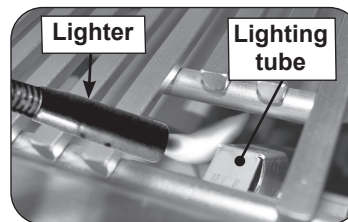
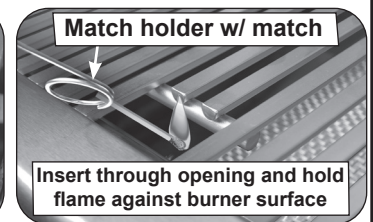

Fig. 31-2 Manual lighting via lighting tube
Fig. 31-3 Manual lighting via match holder
**CAUTION:** Always wait five (5) minutes for gas to clear after any unsuccessful lighting attempt.
2. Insert either a burning long-barrel butane lighter or a burning long-stem match through the cooking grid opening to the top of the lighting tube (see Fig. 31-2). For backburners or infrared burners, hold the flame against the surface of the backburner/infrared burner. For side burners, hold the flame against the burner. Grills equipped with an infrared burner include a wire extension match holder (attached to drip tray) to assist with manual lighting (see Fig. 31-3).
4. If the burner does not light within five (5) seconds of turning the control knob, **immediately depress the knob and turn the valve to OFF**. **WAIT FIVE (5) MINUTES** before repeating steps 2 through 4 of the **MANUAL LIGHTING** instructions.